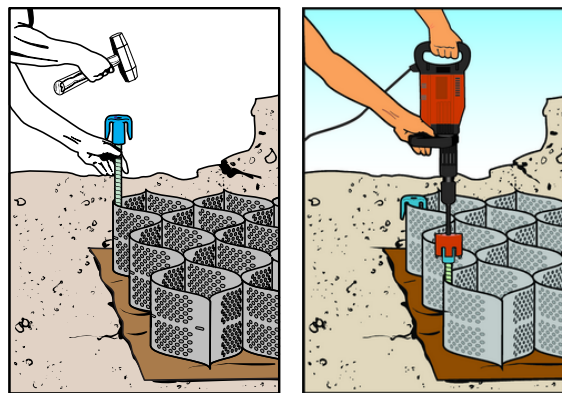

Figure 5 ATRA® Anchor Installation Methods
- ATRA® Anchors, straight stakes or J-Pins (permanent or temporary). Specialized driving tools are available through Presto Geosystems' authorized distributors and representatives to speed driving of ATRA® anchors. See Figure 5.